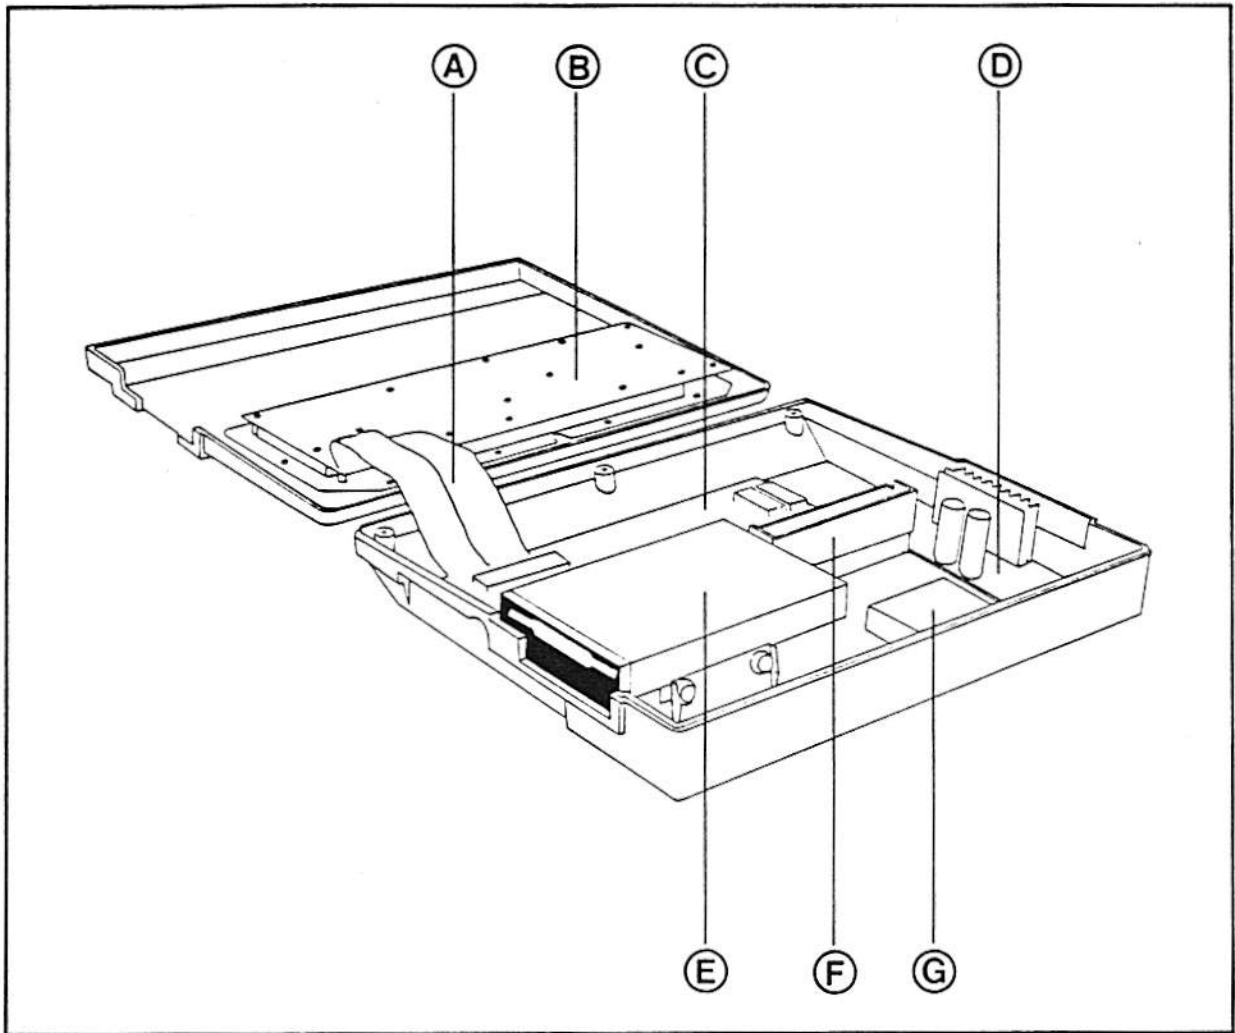

Figure 5.3 Internal Components of SVI-738
- (3) Turn the Console up right again.
- (4) With the front of the Console facing you, carefully lift up the Keyboard and flip it over towards you. (See figure 5.3)
- (5) In some countries, a metal shielding cover is required. It can be removed by loosening the self-tap screws found on it.